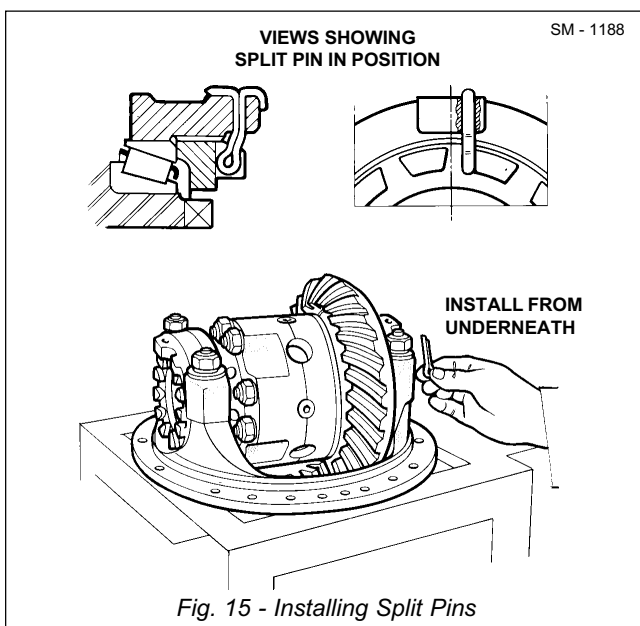

Fig. 15 - Installing Split Pins
1. When gears are set correctly, fit new split pins (48) as shown in Fig. 15.
2. Fit thrust screw (21) into gear casing (40). Tighten firmly against back face of crownwheel (11). Adjust thrust screw (21) to provide 0.254 - 0.381 mm (0.010 - 0.015 in) clearance by loosening back 1/8th of a turn then fit lockwasher and locknut (23 & 22).
3. Tighten locknut (22) then secure in position by bending lockwasher tabs (23) over locknut flat (22), also into groove in lockscrew shank.